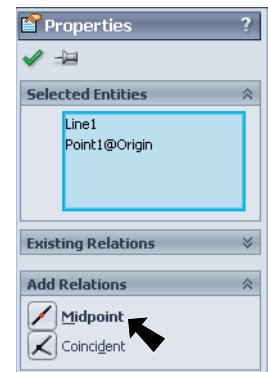
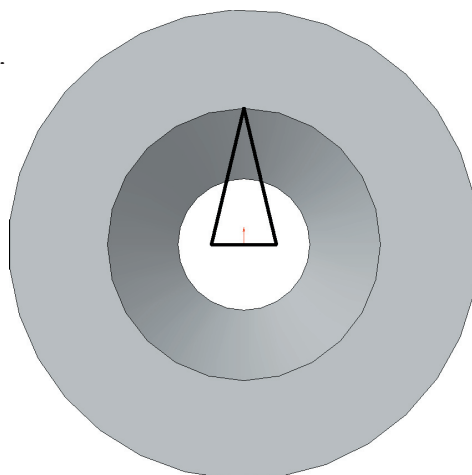

Fig. 13
Fig. 14
Step 7. In the Property Manager under Add Relations, click **Midpoint** , **Fig. 13**.
Step 8. Click **Line**  (L) on the Sketch toolbar.
Step 9. Draw two lines as shown in **Fig. 14**.